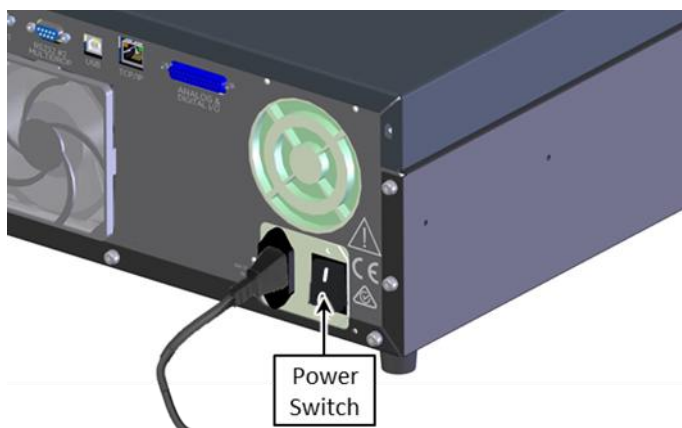

Figure 28 – Turn ON Power Switch
- Refer to Figure 28. Turn ON the power switch.